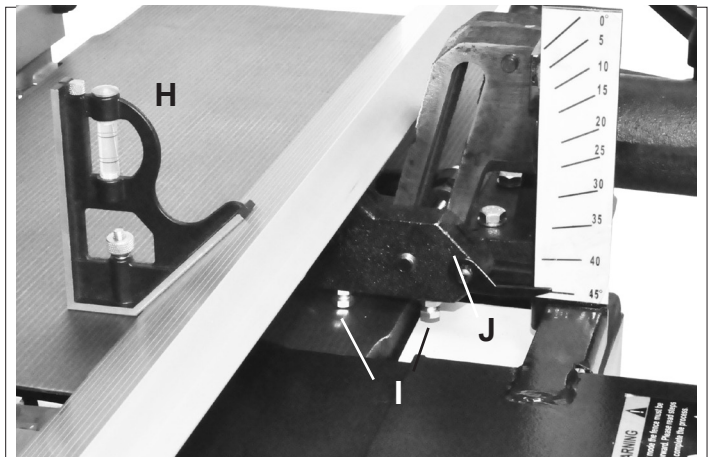

FIG. 9
7. To set the fence at exactly 45° backwards, set a miter square (FIG. 9, H) against the fence extrusion. This angle is actually 135° from the jointer table.
8. There are two Hex Bolts (#302, FIG 9, I) at the bottom of the Fence Bracket (#283, J) that touch the table when at the 45° setting. Adjust the hex bolts until the fence extrusion is exactly set at 45°, then secure the bolts in position with their Hex Nuts (#301).